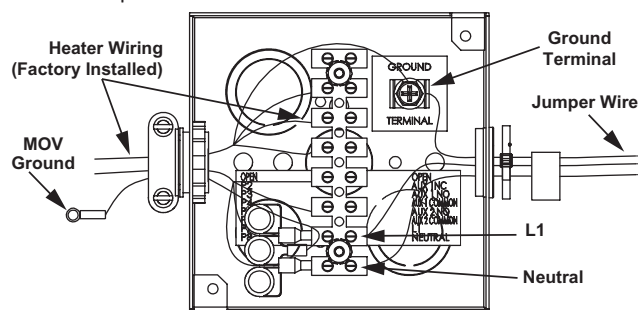

Figure 56. Electrical Wiring - Junction Box
The 120-VAC hot wire from the power supply must connect to the black jumper wire or the "L1" terminal block location in the junction box and the 120-VAC neutral wire must connect to the white jumper wire or the "Neutral" terminal block location in the junction box for correct polarity. See *Figure 56* (page 46).
3. Connect the 120-VAC hot wire from the power supply to the black jumper wire or the terminal block location marked "L1" inside of the junction box located on top of the water heater. If the black jumper wire is used, make the connection inside of the junction box with a properly-sized wire nut. Wrap electrical tape around the wire nut and wire end. See junction box *Figure 56* and the wiring diagram *Figure 70* (page 78).
4. Connect the 120-VAC neutral wire from the power supply to the white jumper wire or the terminal block location marked "Neutral" inside of the junction box located on top of the water heater. If the white jumper wire is used, make the connection inside of the junction box with a properly sized wire nut and wrap electrical tape around the wire nut and wire end. See junction box *Figure 56* and wiring diagram *Figure 70* (page 78).
5. Connect the ground wire from the power supply to the grounding lug inside the junction box. See the junction box in *Figure 56* and the wiring diagram *Figure 70* (page 78).